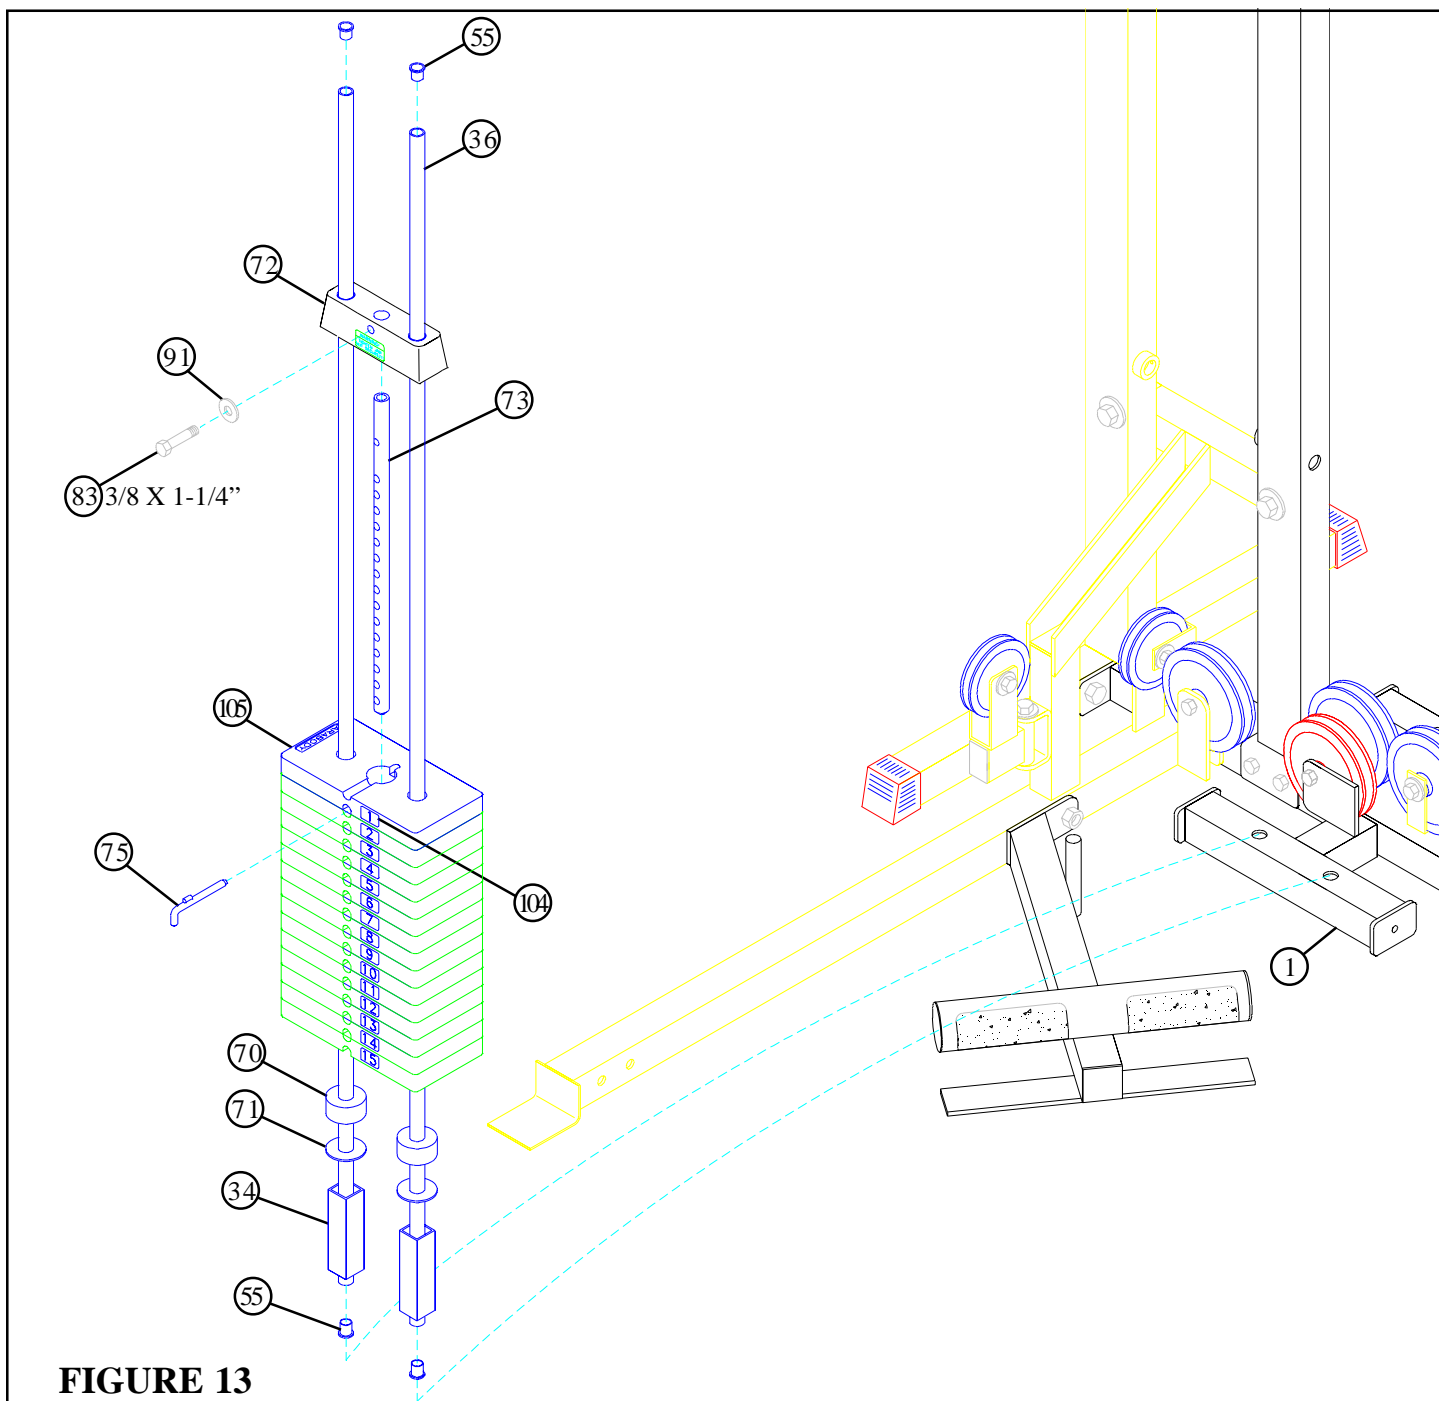

FIGURE 13
- **SECURELY** assemble the SELECTOR SHAFT (73) to the HEAD PLATE (72) using one 3/8 X 1-1/4" BOLT (83) and one 3/8" WASHER (91).
- Insert four CAP PLUGS (55) into the top and bottom ends of the GUIDE RODS (36) as shown in FIGURE 13.
- Insert two GUIDE RODS (36) into the BASE (1) as shown on FIGURE 13. (**NOTE: Lubricate GUIDE RODS (36) with silicon or teflon spray available at most hardware stores.**)
- Slide two 1-1/4 SQ. X 4-7/8" TUBES (34), two 3/4" WASHERS (71), and two WEIGHT STACK CUSHIONS (70) - **IN THAT ORDER** - down over the GUIDE RODS (36).
- Using **EXTREME CARE** slide all fifteen WEIGHT PLATES (105) down over the GUIDE RODS (36) on to the WEIGHT STACK CUSHIONS (70). Make sure that the keyholes of the WEIGHT PLATES (105) are all facing the right way. (**NOTE: If the 359101 50 LB. ADD-KIT is purchased refer to the 359101 ASSEMBLY INSTRUCTIONS now.**)
- Slide the head plate assembly down over the GUIDE RODS (36) onto the weight stack.
- Attach the WEIGHT STACK LABELS (104) to the weight stack. Also insert the WEIGHT STACK PIN (75) into the first WEIGHT PLATE (105) of the weight stack.